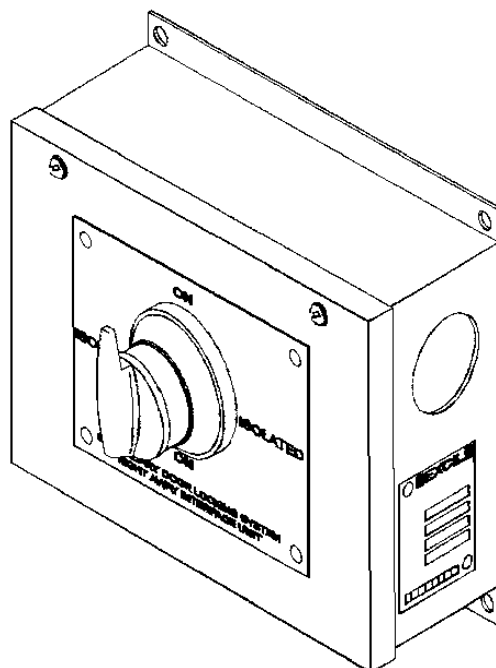

Figure 1: Driver Guard Interface Unit
1. Locate the Driver/guard interface unit located in the guards compartments. See Figure 1.
5. Renew the circuit board complete (No details are available) for the whole unit (see Materials item 1).